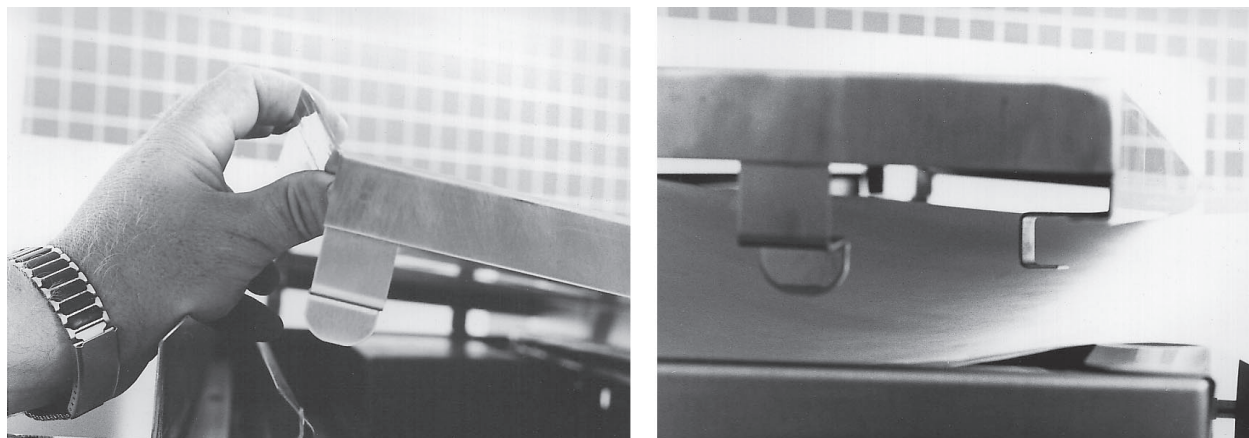

Fig. 3
2. Be sure that the top mounting foot has cleared the front top flange and lift the top off of the appliance. (Fig. 3)